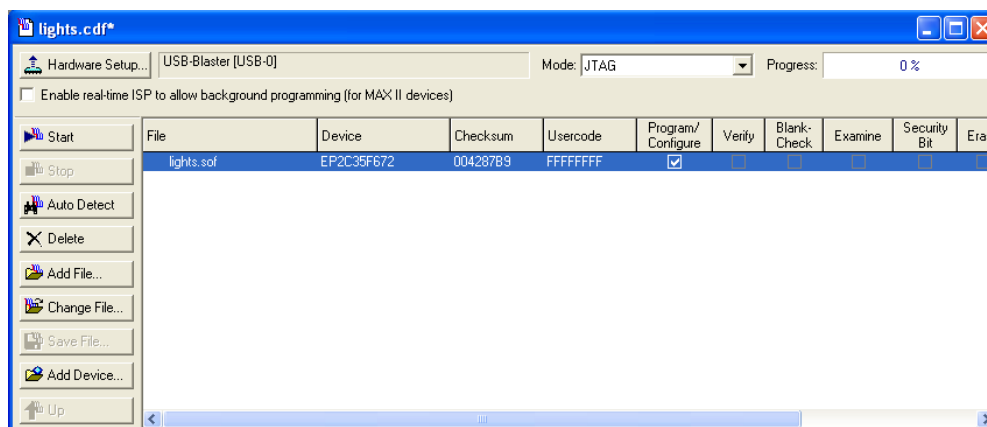

Figure 19. The Programmer window.
2. Select Tools > Programmer to reach the window in Figure 19.
- At this point the window settings should appear as indicated in Figure 19. Press Start to configure the FPGA.